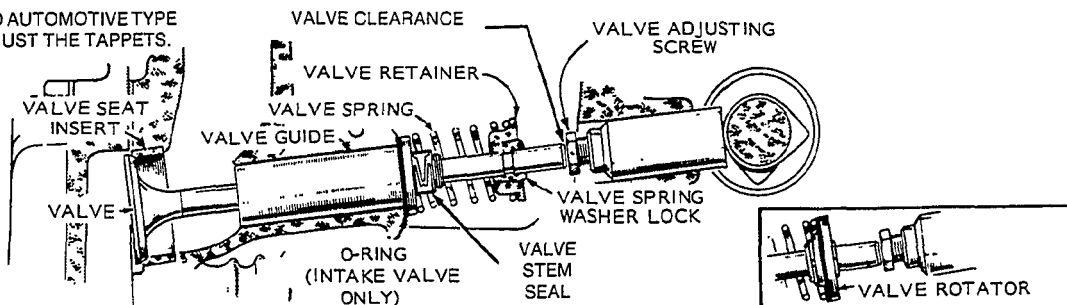

FIGURE 53. VALVE ASSEMBLY
5. The correct feeler gauge for the valve adjustment (**SPECIFICATIONS**) should pass freely between valve stem and tappet; a 0.002 inch (0.05 mm) thicker gauge should not (Figure 53).
A properly functioning valve system is essential for good engine performance. All engines utilize an L-head type valve design as shown in Figure 53. Access to the valve system can be obtained by removing the cylinder heads and the valve covers on top of the engine. A valve spring compressor must be used to remove valves from the cylinder block.